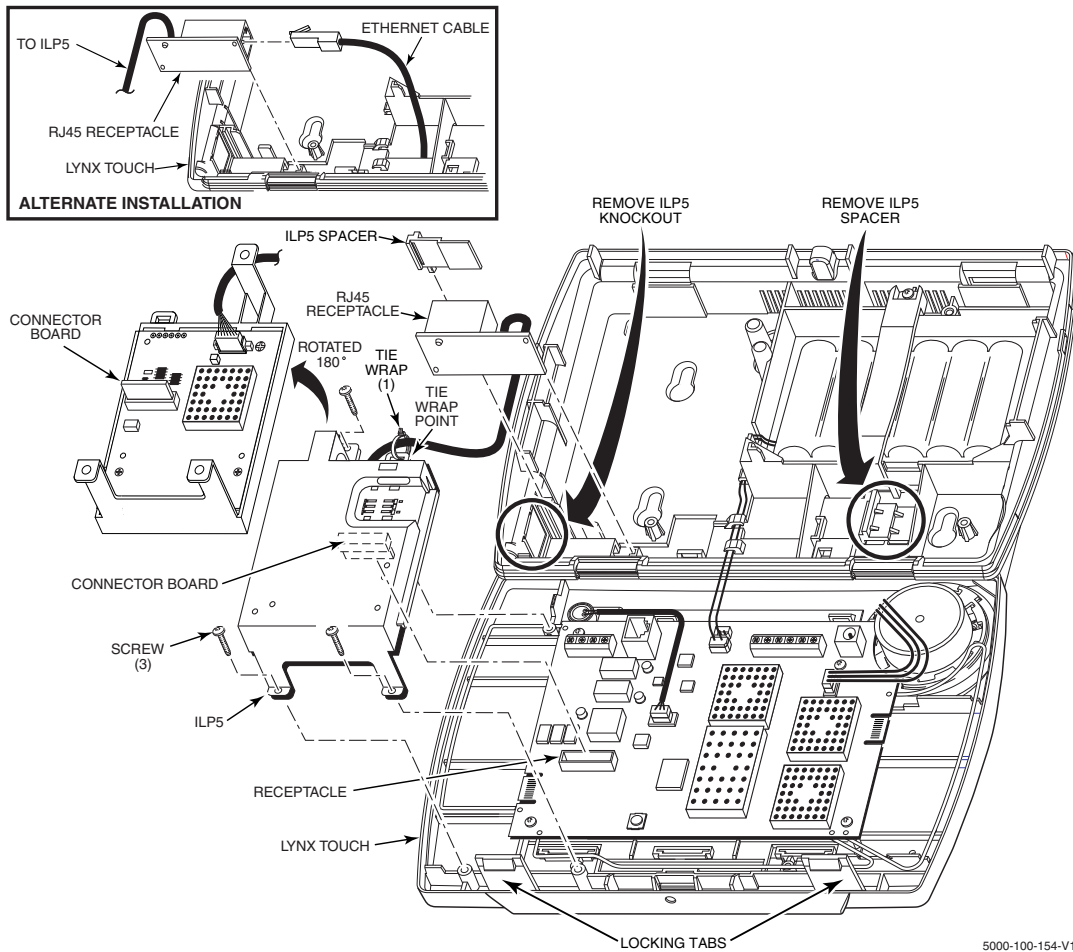

Figure 3. Installing the ILP5 in the LYNX Touch
1. Release the LYNX Touch front case from the back case by depressing the two locking tabs at the top of the unit with the blade of a medium size screwdriver (Refer to Figure 3).
2. Using a wire cutter or knife cut the plastic tabs that secure the ILP5 spacer to the back case of the LYNX Touch (Refer to Figure 3).
3. Remove the ILP5 receptacle knockout from the left side of the LYNX Touch back case (Refer to Figure 3).
4. Install the ILP5 into the LYNX Touch control front case. Ensure that the connector board is properly seated into the receptacle on the control (Refer to Figure 3).
5. Secure the ILP5 with the three provided screws (Refer to Figure 3).
6. Insert the ILP5 receptacle and spacer into the slot on the back case (Refer to Figure 3).
7. Secure the communications cable to the tie wrap point on the ILP5 with the provided tie wrap (Refer to Figure 3).